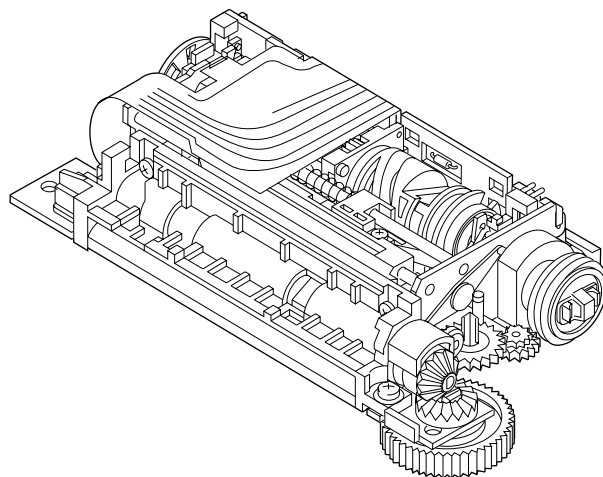

Figure 1-1 Appearance of Model M190G
(1) the transmission mechanism, (2) detector mechanism, (3) print mechanism, (4) paper feed mechanism and (5) ribbon feed mechanism. Fig. 1.1 illustrates the appearance of the Micro Dot Printer Model M190G (The manual knob is equipped and the cover is removed). Refer to Section 1.2 "Operation principle" and Chapter 2 for the operation principle and handling of each mechanism.